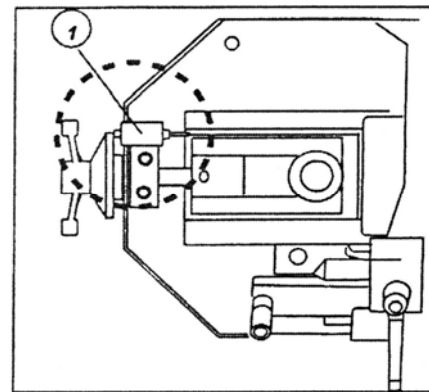
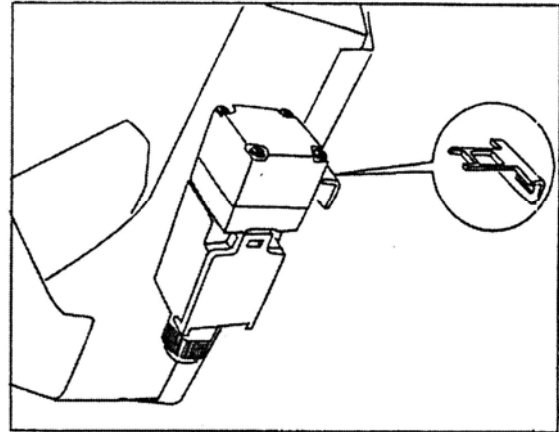

Fig.7
Fig.8
- Check that the band tensioning microswitch is pressed down, otherwise the machine will not work(1 Fig.7).
6. Guard opening microswitch (Fig.8)
- Turn the handwheel (23 fig.1) until the stop rests against the microswitch, located immediately below the handwheel support flange. (1 fig.7)
Ensure that the microswitch located under the handwheel is pressed by the stop (1 fig.7) on the handwheel otherwise the machine will not function. The band is perfectly tensioned when the microswitch is pressed by the stop of the handwheel. If the flywheel safety guard is not properly closed the machine does not work because of the safety microswitch. (1 Fig.8)